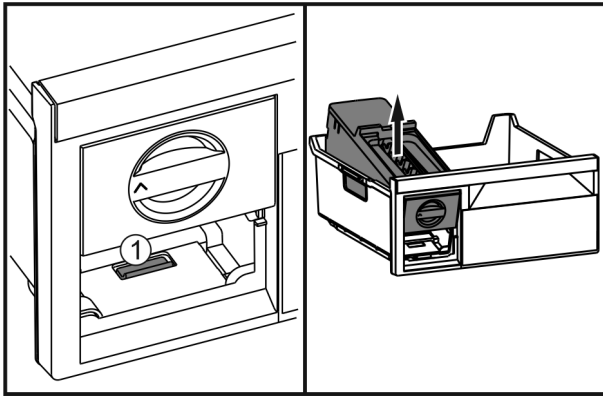

Fig. 51
- ▶ Press the lug Fig. 51 (1), lift up the EasyTwist-Ice at the back and take it out of the freezer drawer.